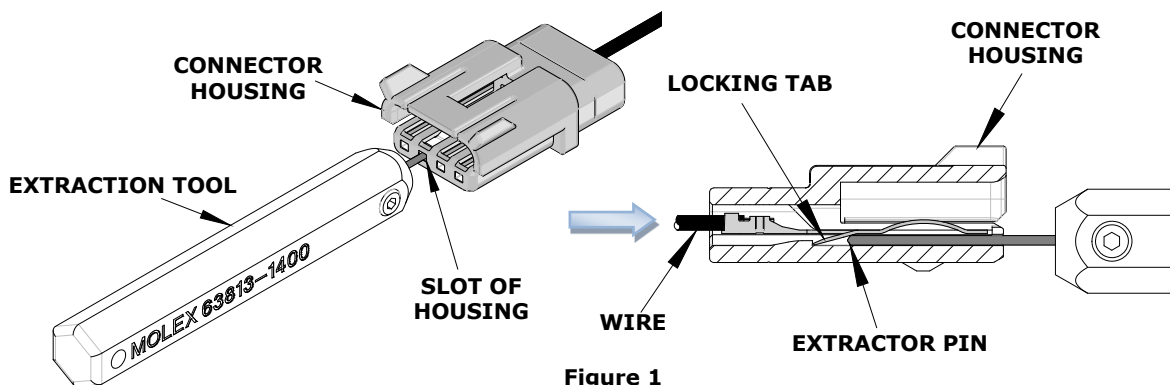

Figure 1
1. Push the terminal forward in the arrow direction before using the extraction tool. See Figure 1.